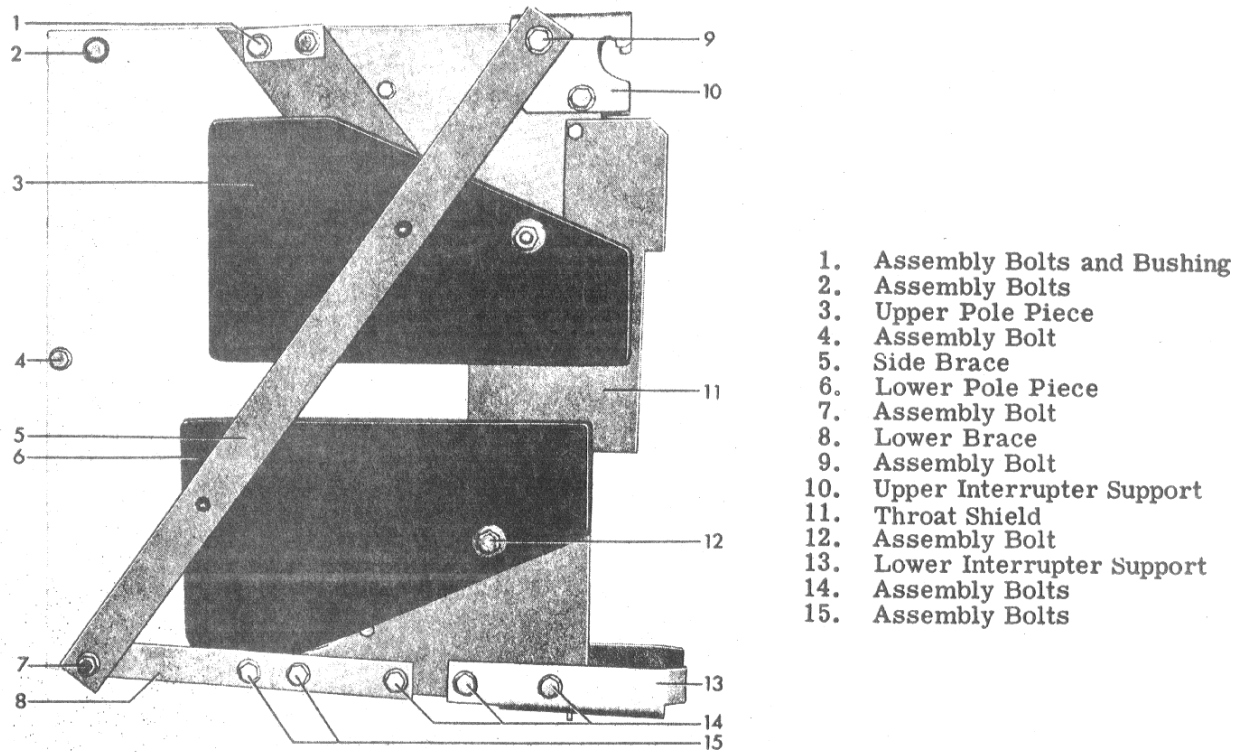
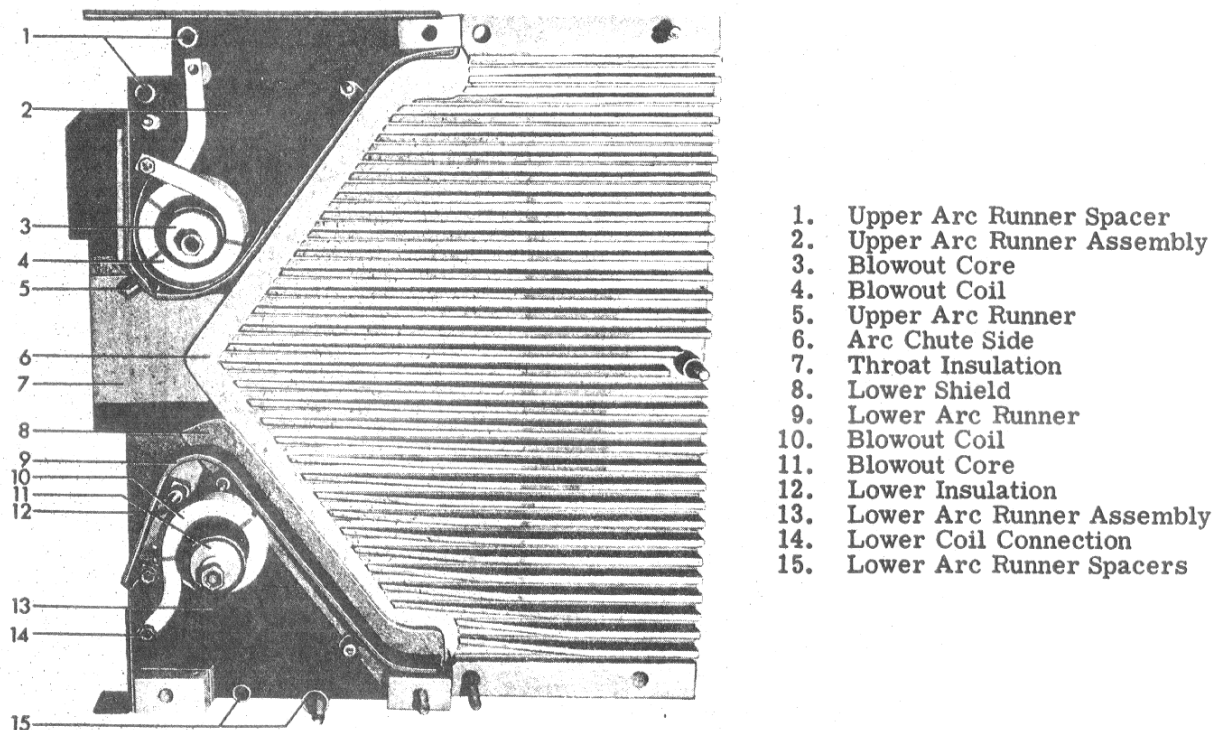
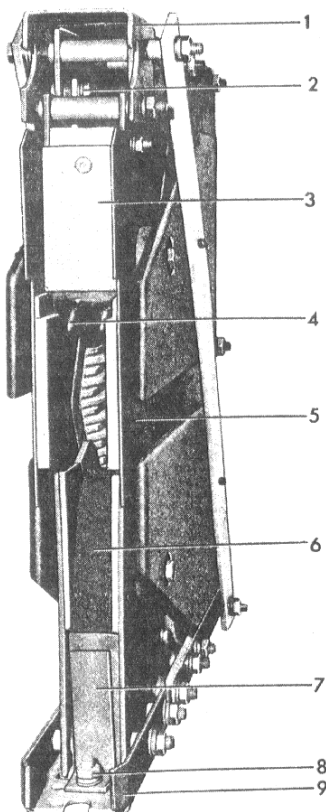

Figure 18. (8917442E) Interrupter Assembly
Figure 19. (8917442D) Interrupter Assembly with Side Removed
Figure 20. (8917442C) Interrupter Assembly
1. Remove the assembly bolts (7, 9, 11, & 13) Figure 18.
2. Remove the side brace (5), and pole pieces (3 & 6).
3. To remove the upper arc runner assembly (4) Figure 20, remove assembly bolt (1) Figure 18.
4. Remove the assembly bolts (15) Figure 18 to remove the lower brace (8).
5. Remove the lower interrupter support (13) by removing the assembly bolts (14) and the connection nut (8) Figure 20.
6. At this point, the throat shields (5) Figure 20, and the lower arc runner assembly (6) can be removed.
7. Further disassembly of both the upper and lower arc runner assemblies can be done by removing the various screws and assembly bolts (not illustrated) as shown in Figure 19.
8. The arc chute sides (6) Figure 19, can also be separated for inspection after removing assembly bolts (2 & 4) Figure 18.
5. Before bolting the upper supports in place, make certain that the upper arc runner assembly is tight against the arc chute side so that the gap between the throat insulation (7) Figure 19, and the arc chute sides (6) is a minimum.
6. Make certain that the electrical connections (2 & 8) Figure 20 are tight.